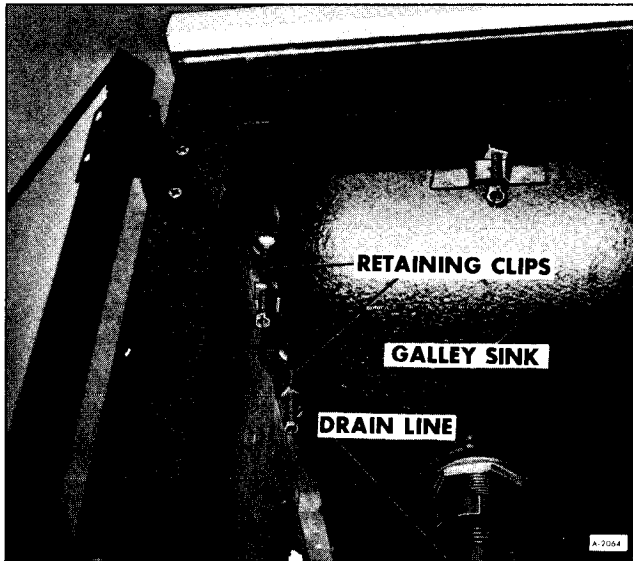

Figure 15—Sink Retaining Clips
3. Remove sink retaining clips (See figure 15).
1. Position sink into place and secure with clips (figure 15).